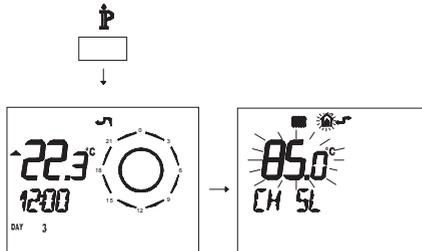

Fig. 7.25
- Press button P for more than 3 seconds to enter in *INFO* (Fig. 7.25) mode.